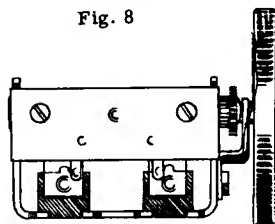

Fig. 9
- ( ) Start a 6-32 set screw in the hub of the tuning drum. Place the drum on the tuning condenser shaft and tighten the set screw just enough to hold the drum on the shaft. See Figure 9.